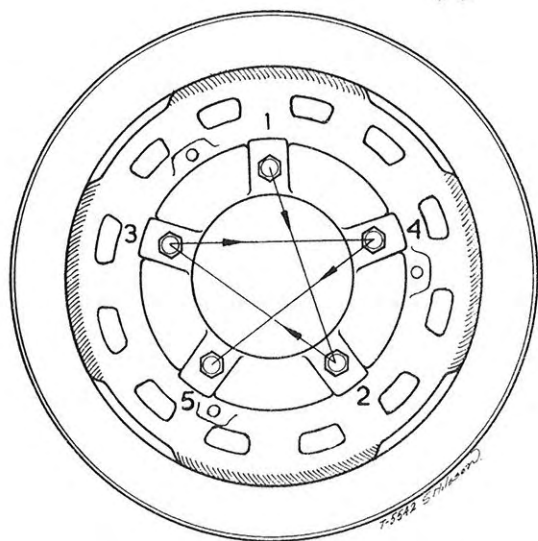

Fig. 7. Order for tightening wheel bolts
3. Screw in the remaining bolts and tighten them gradually in two or three stages, following the scheme shown in Fig. 7. Wrench torque 8 - 10 kgm (58 - 73 ft.-lbs). Before final tightening of the bolts it is best to lower the car so that it rests on the wheels.